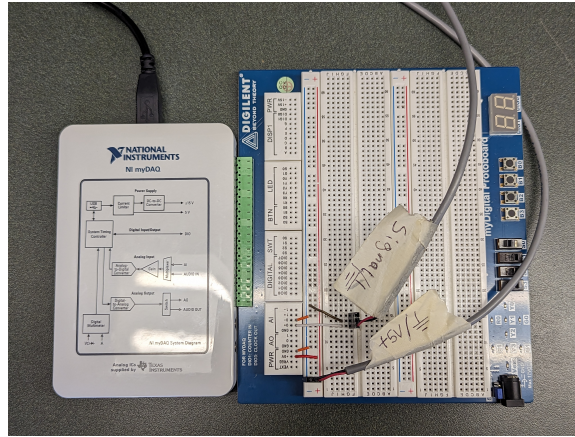

Figure 1: Connection to NI-DAQ system for experiment-2.
- Connect the potentiometer leads labeled "Power and Ground" to the 5 Volt reference signal and the reference ground from the power supply (Figure 1).
- Connect the NI MyDAQ to the angular potentiometer leads labeled "Signal and Ground". The red wire should connect to AI0+ and the black wire to AI0- as shown (Figure 1).